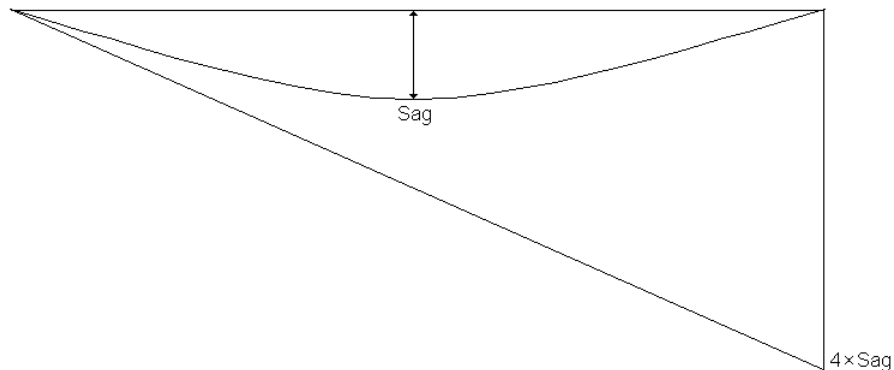

Figure 3
- 6) The Vertical Offset result (VO) is 4 times your sag. (i.e., sag is $\frac{1}{4}$ of the displayed Vertical Offset value.) (See Fig. 3.)